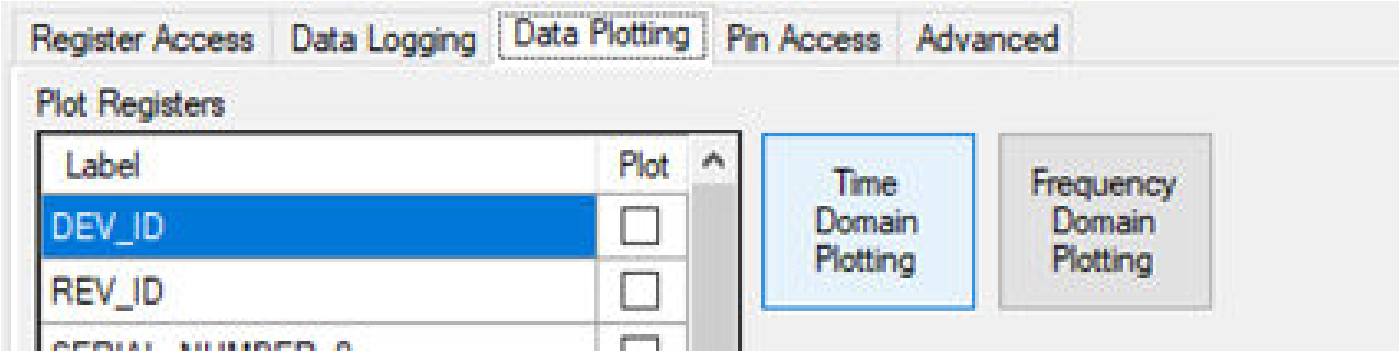

Figure 7. Data Plotting Tab—Time Domain Plotting
1. Go to the **Data Plotting** tab and click **Time Domain Plotting** to open a new window (see Figure 7).